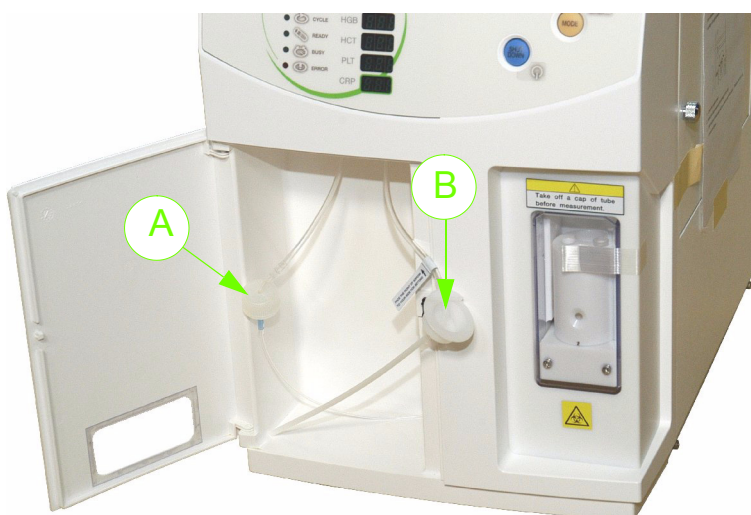

Fig.1: Reagent straws
- A Lyse straw (A) and a Cleaner straw (B) are already installed (See "Fig.1: Reagent straws, page 4").